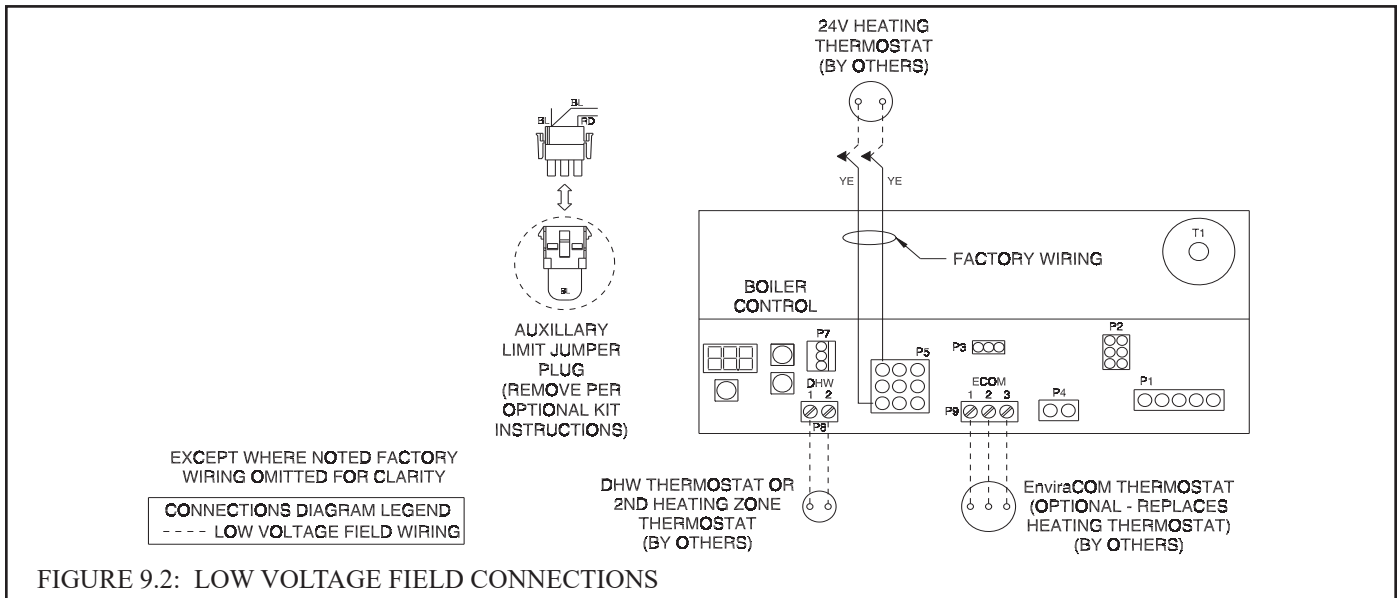

FIGURE 9.2: LOW VOLTAGE FIELD CONNECTIONS
- Wire additional field supplied safety limits, such as low water cut-offs and temperature limit devices, so as to break the 120V power supply to the boiler. Alternatively, some 24V safety limits can be wired in place of the limit jumper shown in Figure 9.2. Do not alter the boiler's factory wiring when adding a field supplied limit device.
NOTICE: This boiler is equipped with a listed high water temperature limit function. This limit provides boiler shutdown in the event the boiler water temperature exceeds the set point of the limit control. Certain Local Codes require an additional water temperature limit. If necessary, install an additional water temperature limit (P/N 106056-01) or equivalent Honeywell L4006 Aquastat. Wire as indicated in Figure 9.2.
- b) DHW Circulator - Pumps boiler water to an indirect water heater upon a call for domestic hot water (DHW) from the DHW thermostat terminals shown in Figure 9.2. This output can also be used for a second space heating zone. See Section XI of this manual for additional information.